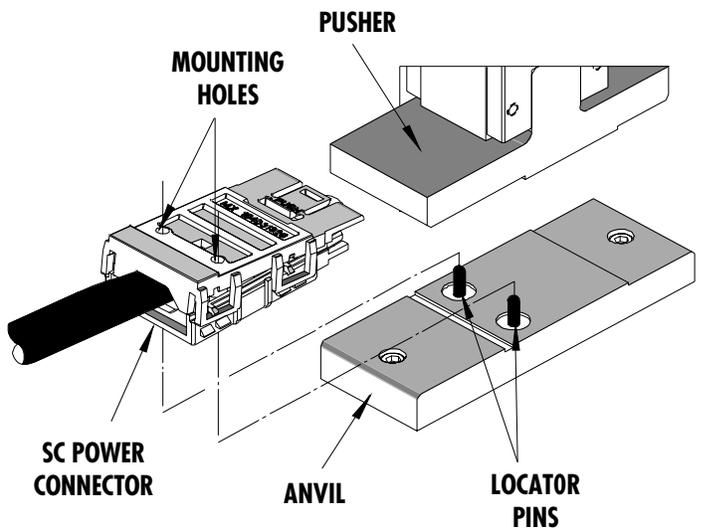

Figure 5
5. Place the connector assembly on the anvil. Position the connector mounting holes onto the locator pins as shown in Figure 5.